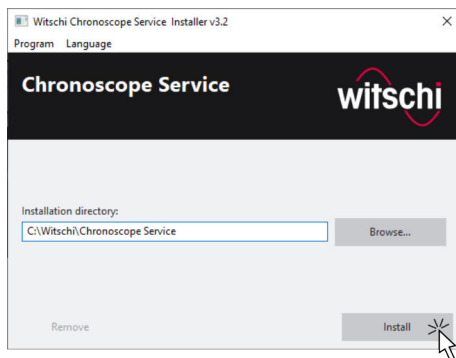

Fig. 4: Installing the software
5. Start the installation (Fig. 4).